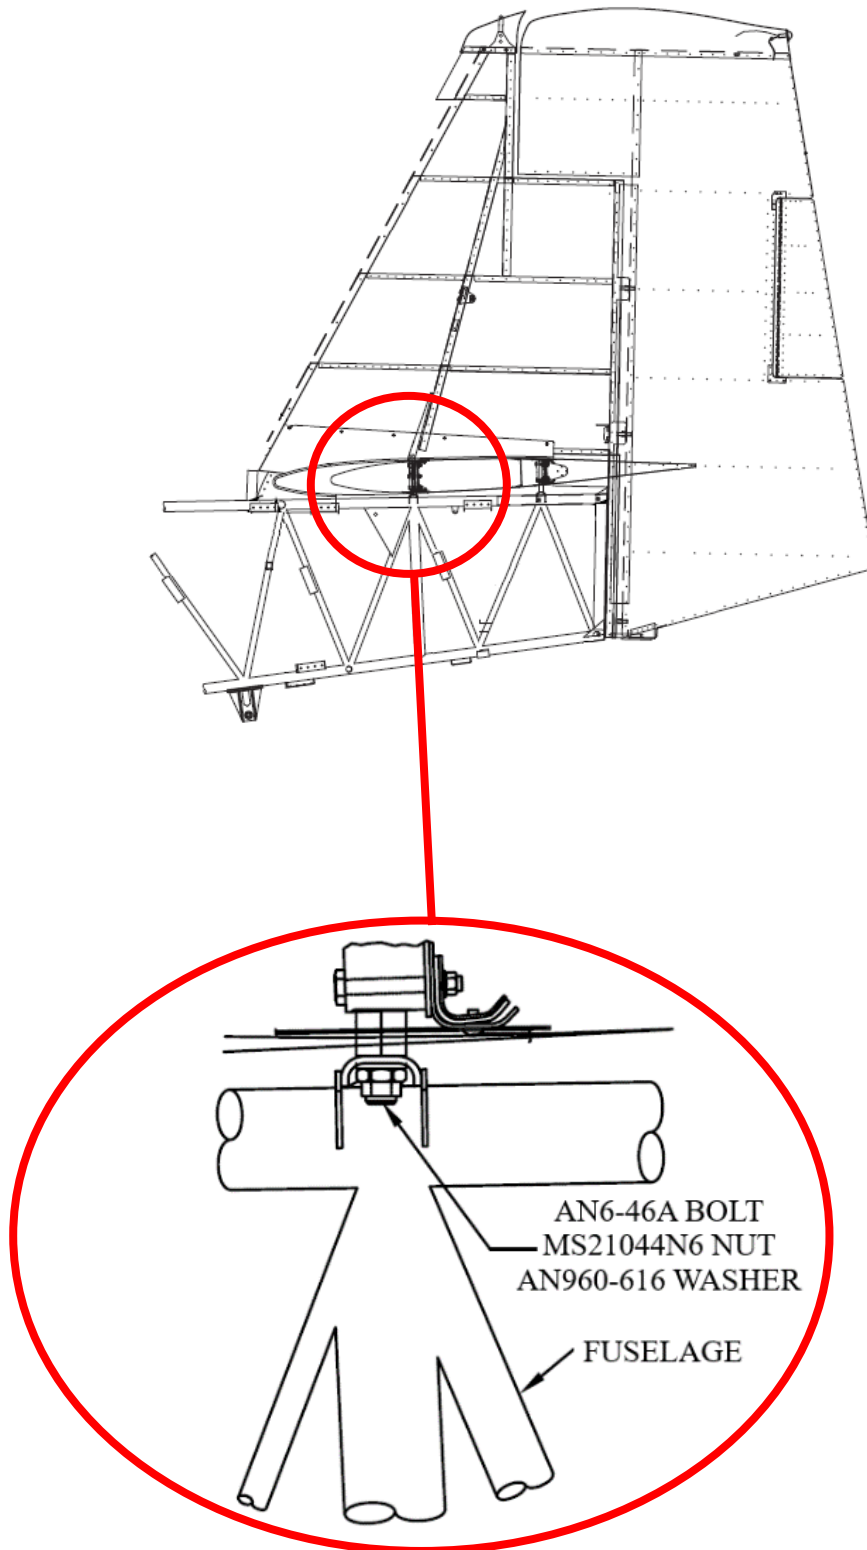

Figure 4. Nut, bolt, washer, and 10962-2 (10962-3 on T660) Channel
3. Grind or saw to remove 10962-2 Channel (10962-3 on T660) (shown in Figure 4) and its gussets from the airframe longerons, transverse member, and vertical members. Use extreme care to avoid any damage to adjacent airframe members' parent metal. Leave welds .01 to .02 proud of parent metal's surface.
- a. Use AN6 bolts to temporarily fasten 534220003-003 or 534220001-003 Channel to the SB78-1 Locating Tool as shown in Figure 4. Temporarily fit the supplied weld fixture to airframe's aft stabilizer attach channel in the same fashion.